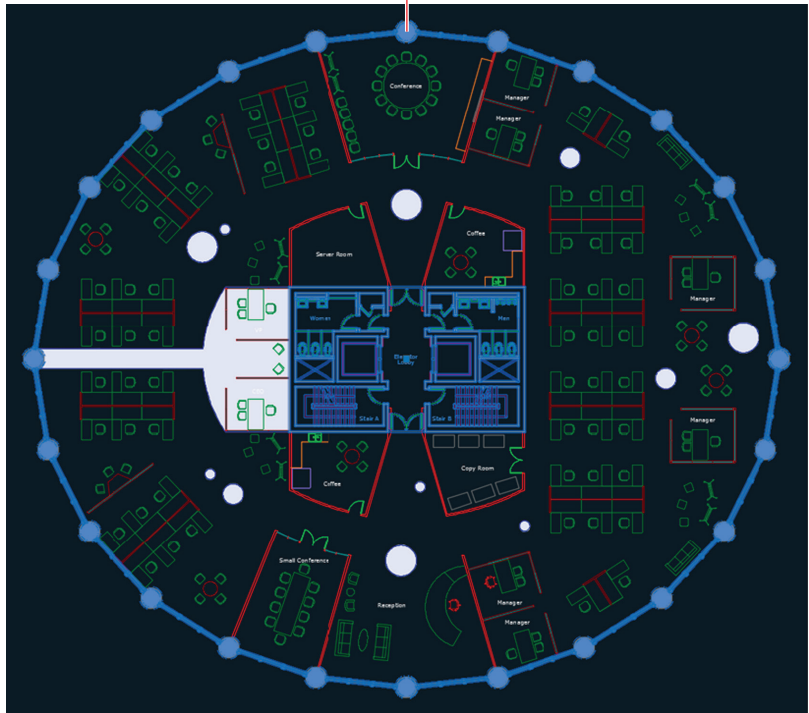

FIGURE 9.23 The core and shell drawing is externally referenced into the tenant drawing.
5. The core and shell appear faded with respect to the tenant drawing. Select the core or shell to select the single Xref object (see Figure 9.23).